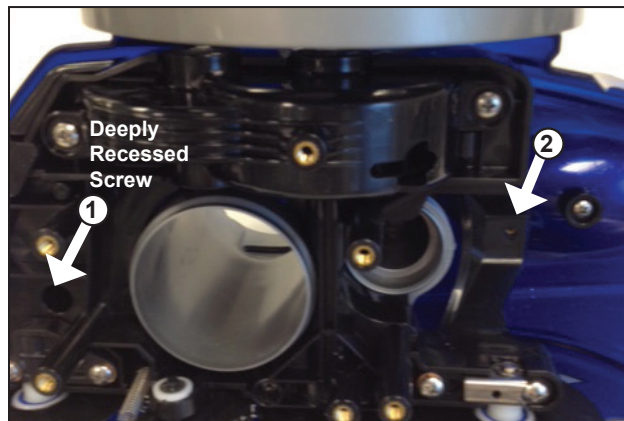
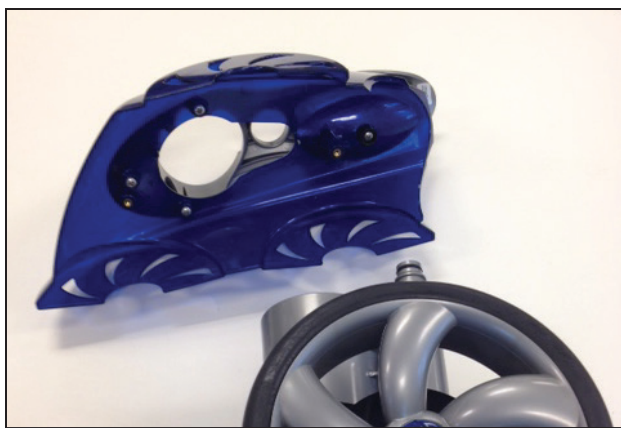

Figure 8. Remove two (2) top housing screws
Figure 9. Remove top housing
10. Remove two (2) screws (Figure 8) to detach and remove top housing (Figure 9).